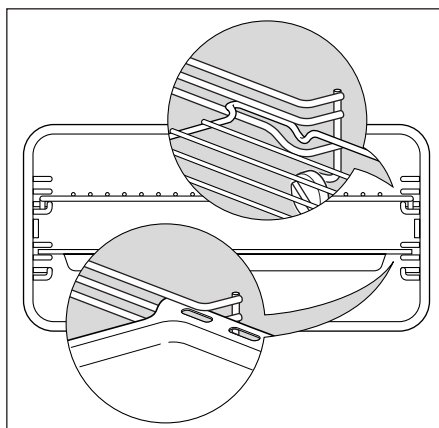

Figure 10
- Slide into the guides, the shelf and the tray (fig. 10).